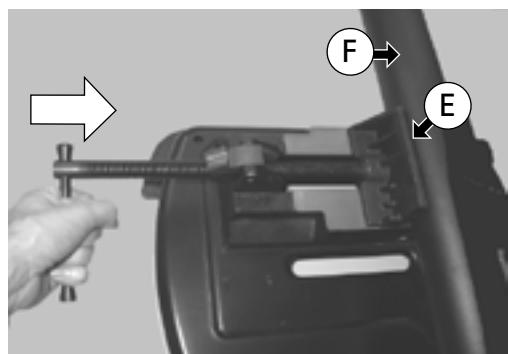

Fig. 17
3. Place the piece to be cut (F) and turn the crank handle in the direction of the arrow - (Fig. 17) - until the front face of the bench lathe is in contact (E) with the piece to be cut (F).